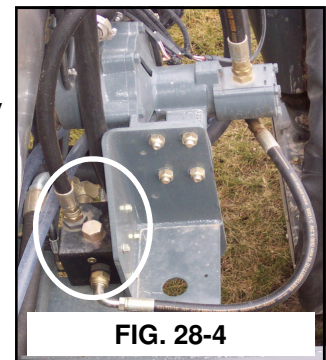

FIG. 28-4
**RAVEN SPRAY SYSTEMS CONSOLE**— The spray system is controlled by the Raven SCS 4600 (fig. 28-3) and the Pulse Width Modulated Valve (fig. 28-4). The system receives data and automatically makes adjustments based on the target rate of application set by the operator.